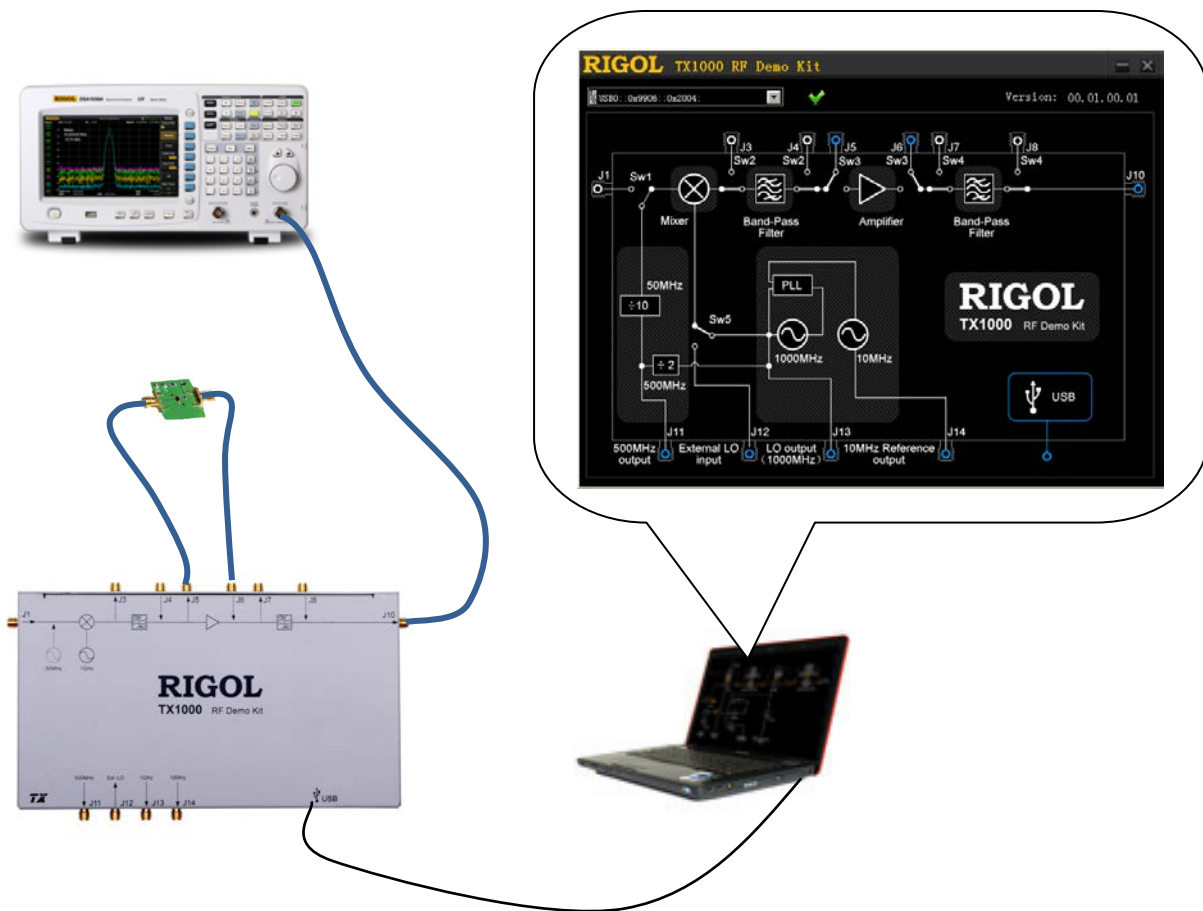

Figure 8 The Influence of the Performance of Amplifier on the System
1. Connect the PC and TX1000 using USB cable, connect J10 of TX1000 and the RF input terminal of the spectrum analyzer using N-SMA cable and connect the amplifier to J5 and J6 using two SMA-SMA cables (to replace the internal amplifier of TX1000) as shown in Figure 8;